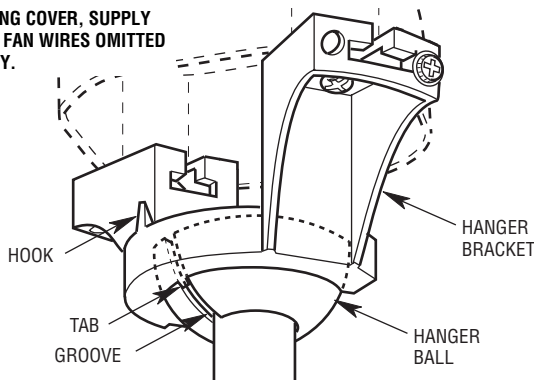

Figure 8
- Carefully lift the fan assembly and seat the hanger ball in the hanger bracket (Figure 8). The tab on the hanger bracket must seat in the groove in the hanger ball.
- Carefully lift the fan assembly up to the hanger bracket. Pass the hook on the hanger bracket (Figure 8) through one of the screw holes (not the slots) in the ceiling cover (Figure 9). The hook must pass from the inside of the ceiling cover to the outside. The hook will hold the fan assembly while connecting the wiring.